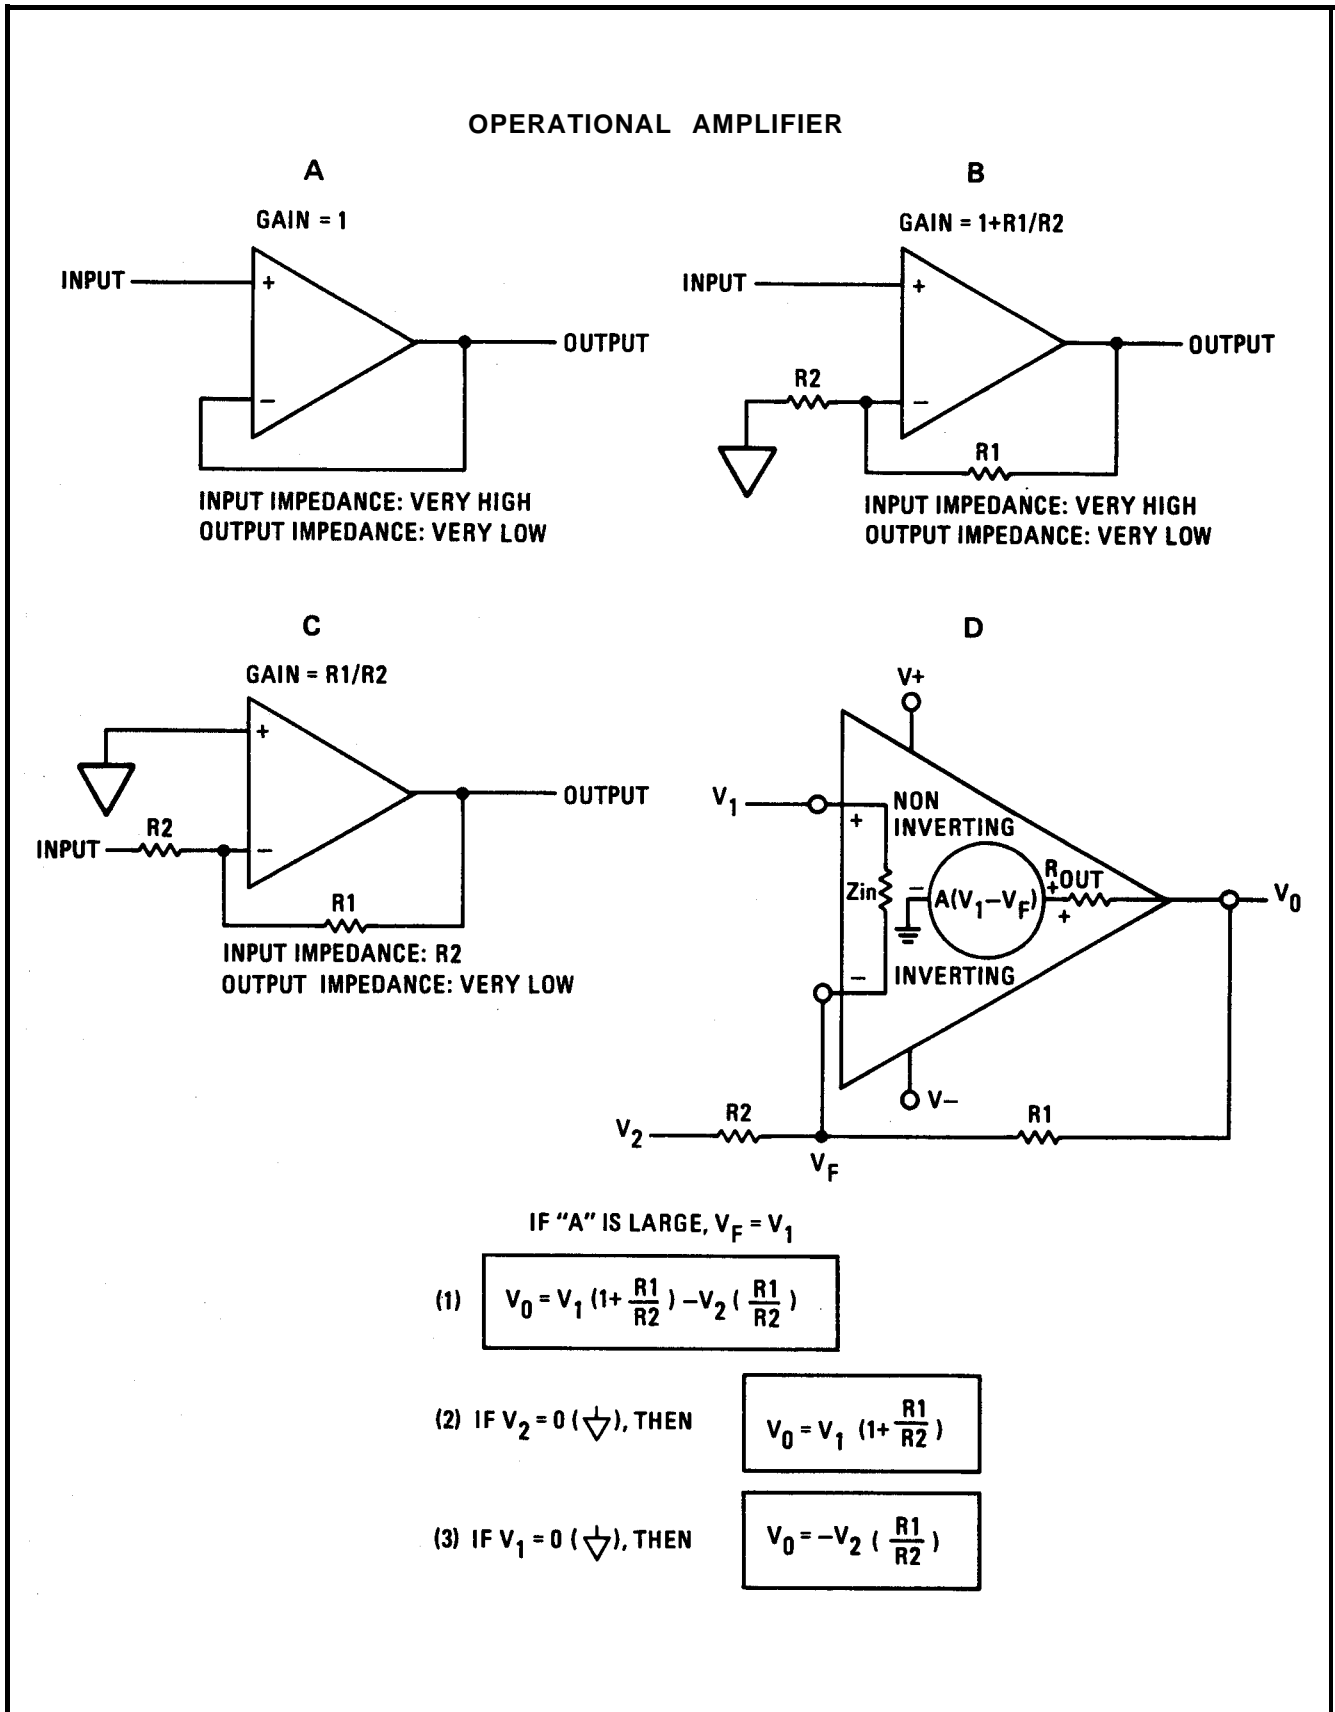

Figure 8-3. Operational Amplifier Functional Circuits
**8-26. Operational Amplifiers.** Operational amplifiers are used to provide such functions as summing and offsetting voltages, as buffer amplifiers, detectors, and in power supplies. The particular function is determined by the external circuit connections. Equivalent circuit and functional diagrams for typical operational amplifiers are contained in Figure 8-3. Circuit A is a non-inverting buffer amplifier with gain of one. Circuit B is a non-inverting amplifier with gain determined by the resistance of R1 and R2. Circuit C is an inverting amplifier with gain determined by R1 and R2, with the input impedance equal to R2. Circuit D shows the equivalent circuit and typical parameters for an operational amplifier.